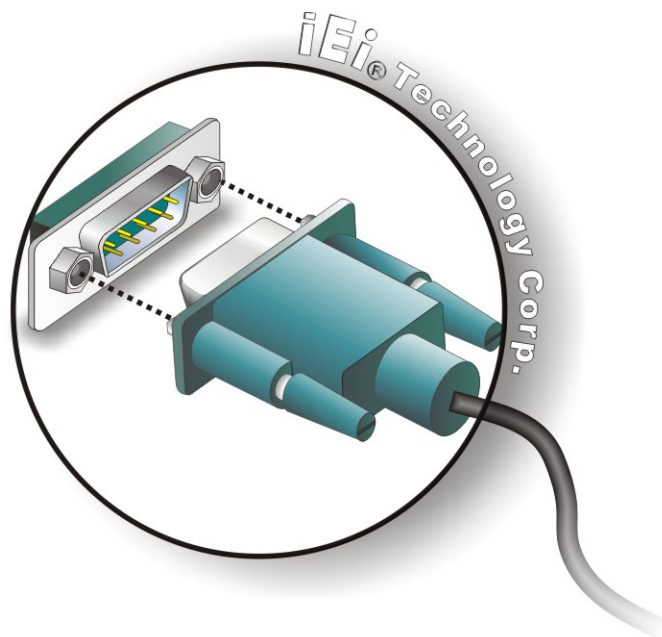

Figure 4-16: DB-9 Serial Port Connector
Step 2: **Insert the serial connector.** Insert the DB-9 connector of a serial device into the DB-9 connector on the bottom panel. See **Figure 4-16**.